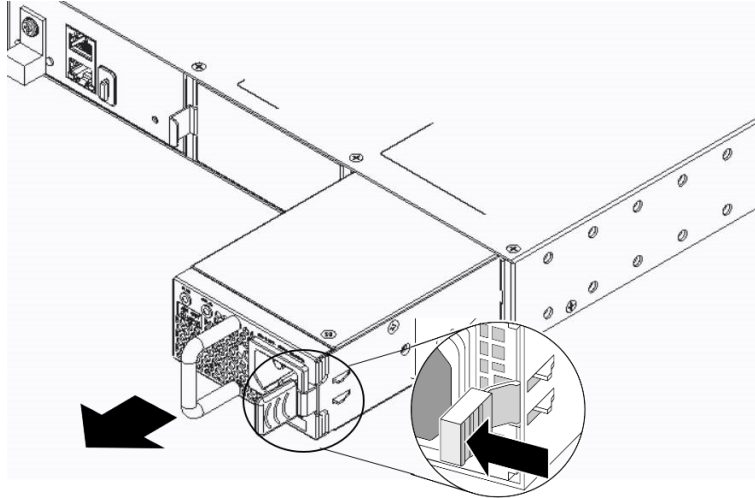

Figure 32: Removing a 800 W AC Power Supply
5. Push the latching tab toward the power supply handle and pull outward on the handle to disengage the power supply internal connectors. See Figure 32.